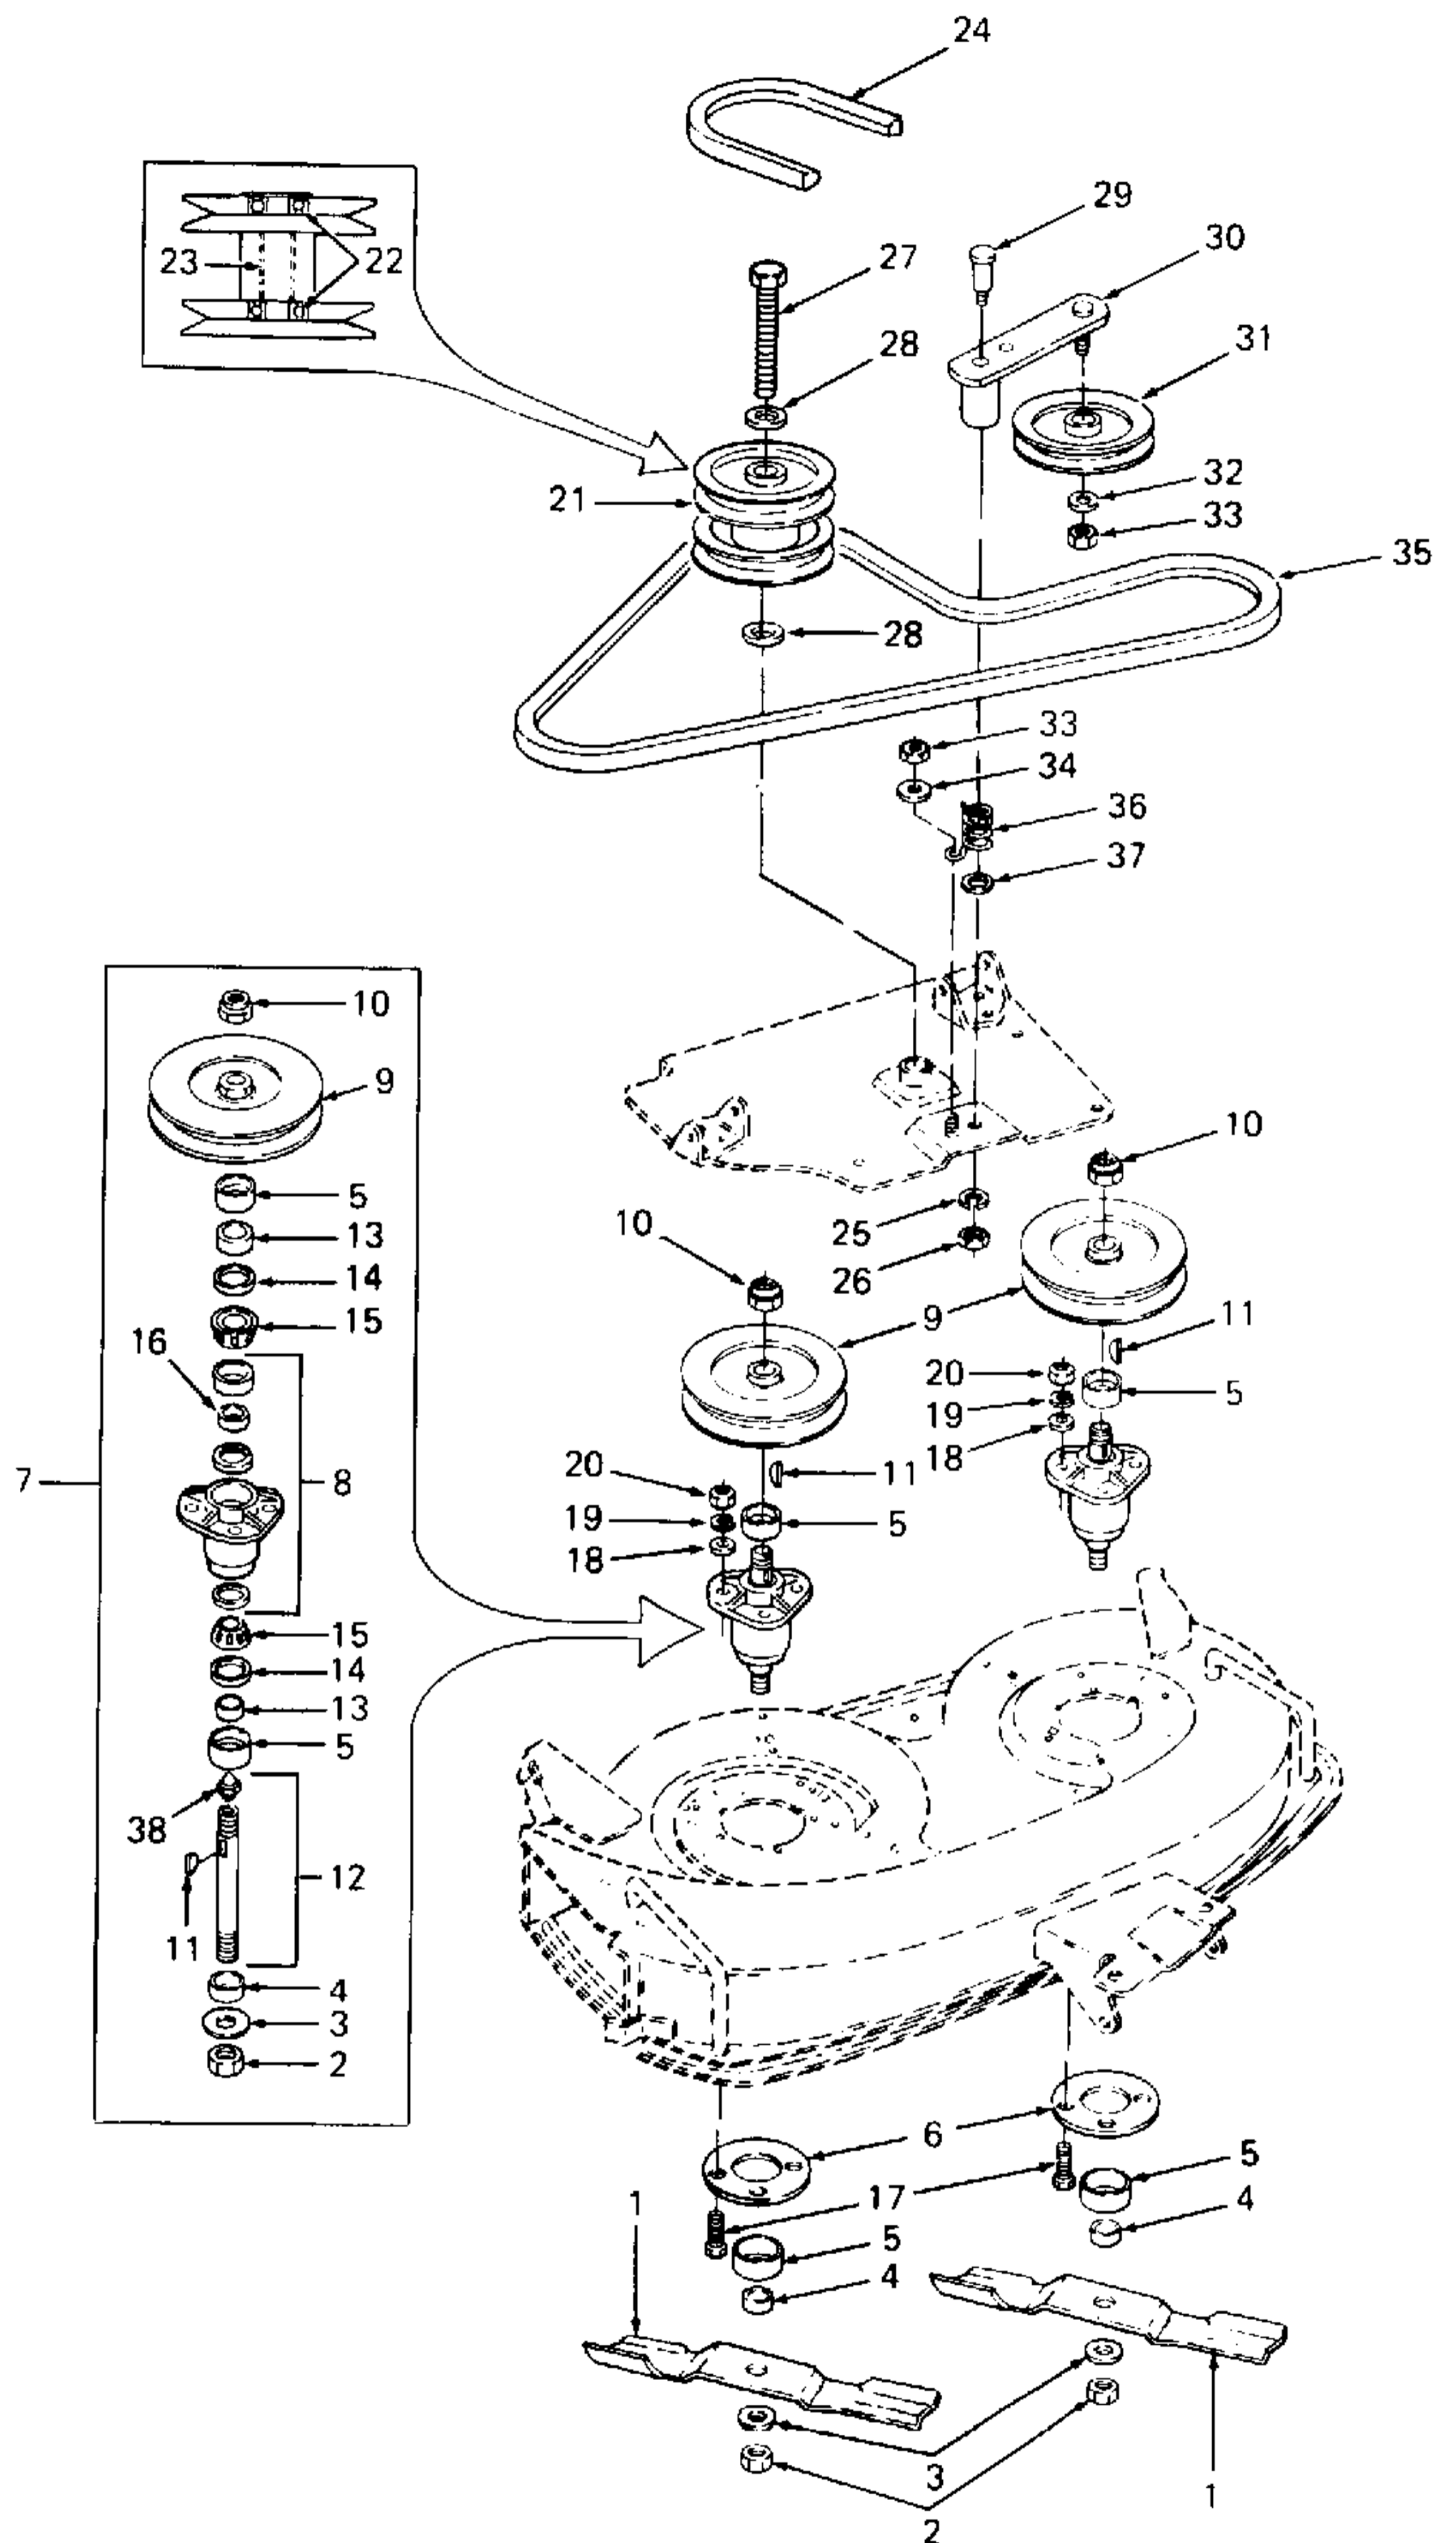

Figure 5-109. Spindles, Pulleys and Blades (Model 190-328).
5-69.3 **Disassembly.** Refer to Figure 5-108 and disassemble deck to level necessary to perform spindle repair and/or overhaul. Then, refer to Figure 5-109 and disassemble spindle assemblies (7) as follows:
1. Install bearing spacer (16, Figure 5-109) and bearing cones (15).
2. Install oil seals (14), spacers (13) and spindle cups (5).
3. Install spindle (12) in assembly and place key (11) in keyway.
4. Install drive pulleys (9) and secure with hex jam nuts (10). Torque nuts (10) to 50 to 60 ft-lbs.
5. Install blade spacers (4), blades (1), flat washers (3) and hex nuts (2). Torque hex nuts to 90 to 100 ft-lbs.
7. Complete remaining reassembly using Figure 5-109 as a guide.